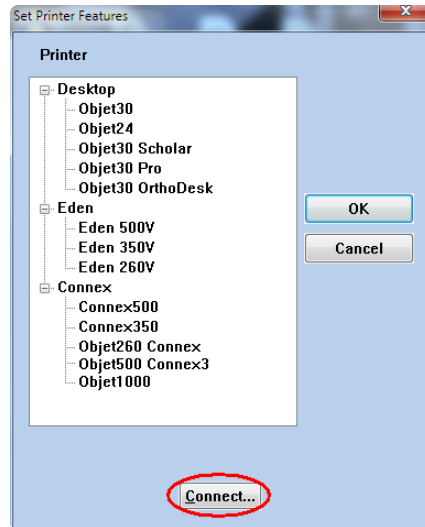

Figure 5-86: Connecting to a printer (A)
2. In the *Set Printer* dialog box, click Connect (see figure 5-86).